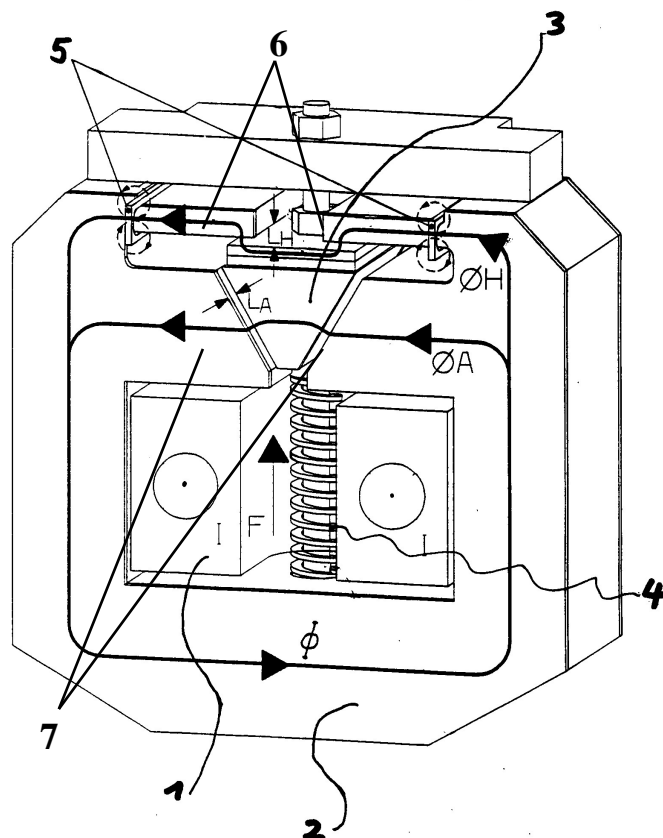

Fig. 7 OCT device.
- The OCT release is a magnet with two magnetic circuits, optimizing the twin magnetic field principle [Fig. 7]. This technology ensures equally fast tripping in both current directions. This system does not require an auxiliary control voltage to operate.